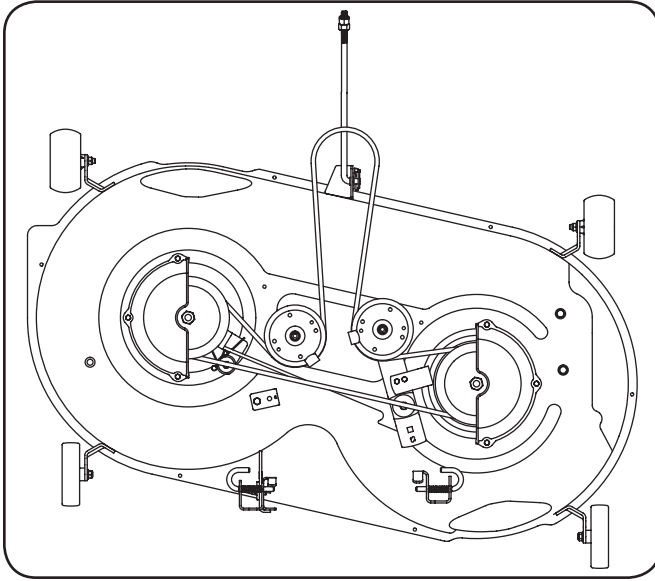

Figure 7-8
5. To place the new belt begin by routing the belt around the two outer spindle pulleys as shown in Fig. 7-8.
6. Then route the belt around the two deck idler pulleys as shown in Fig. 7-8.